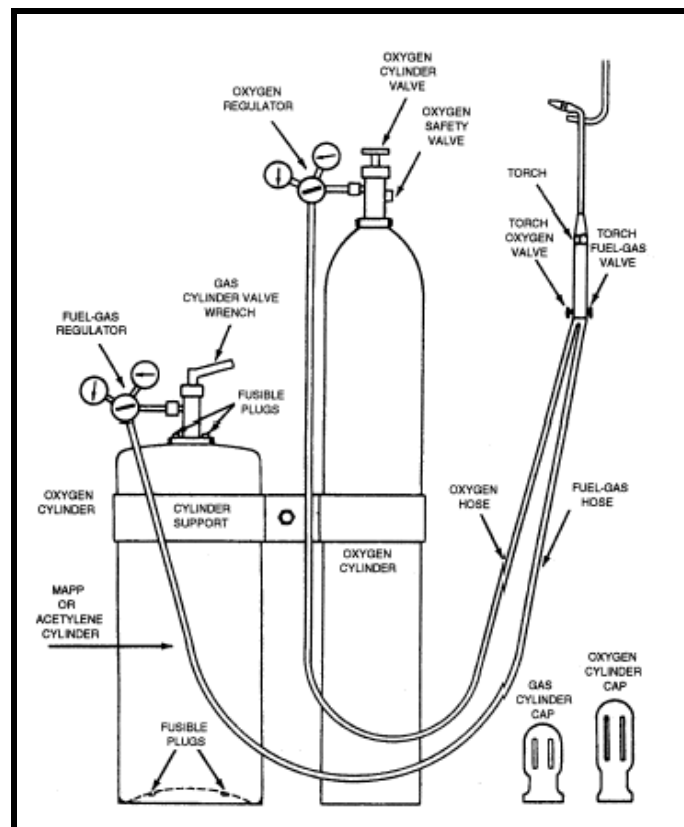

Figure-5: Schematic representation of gas welding/ cutting equipment.
2.3 Equipment for the Process – The equipment consists of a cylinder of acetylene, a cylinder of oxygen, two regulators, two lengths of hose with fittings and a cutting torch with tips. The equipment is schematically shown in figure-5.